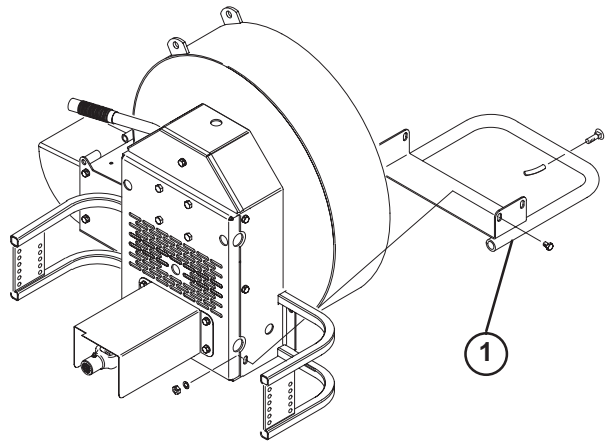

Figure 5
1. Mount bumper assembly to blower with (4) 3/8-16 x .50" Lg. capscrews, .40 I.D. x .81 O.D. flatwashers and locknuts (Fig. 5).